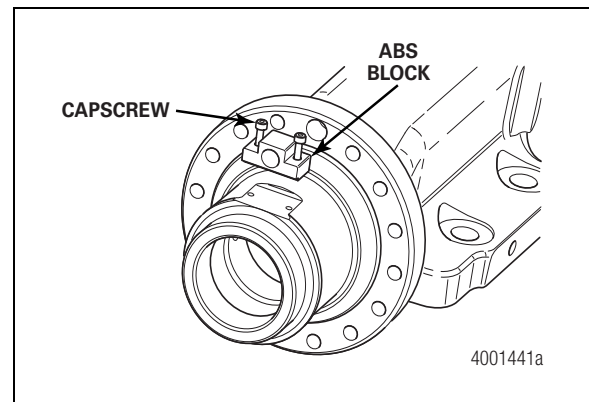

Figure 3.16
7. If required, remove the ABS block mounting cap screws. Figure 3.16.